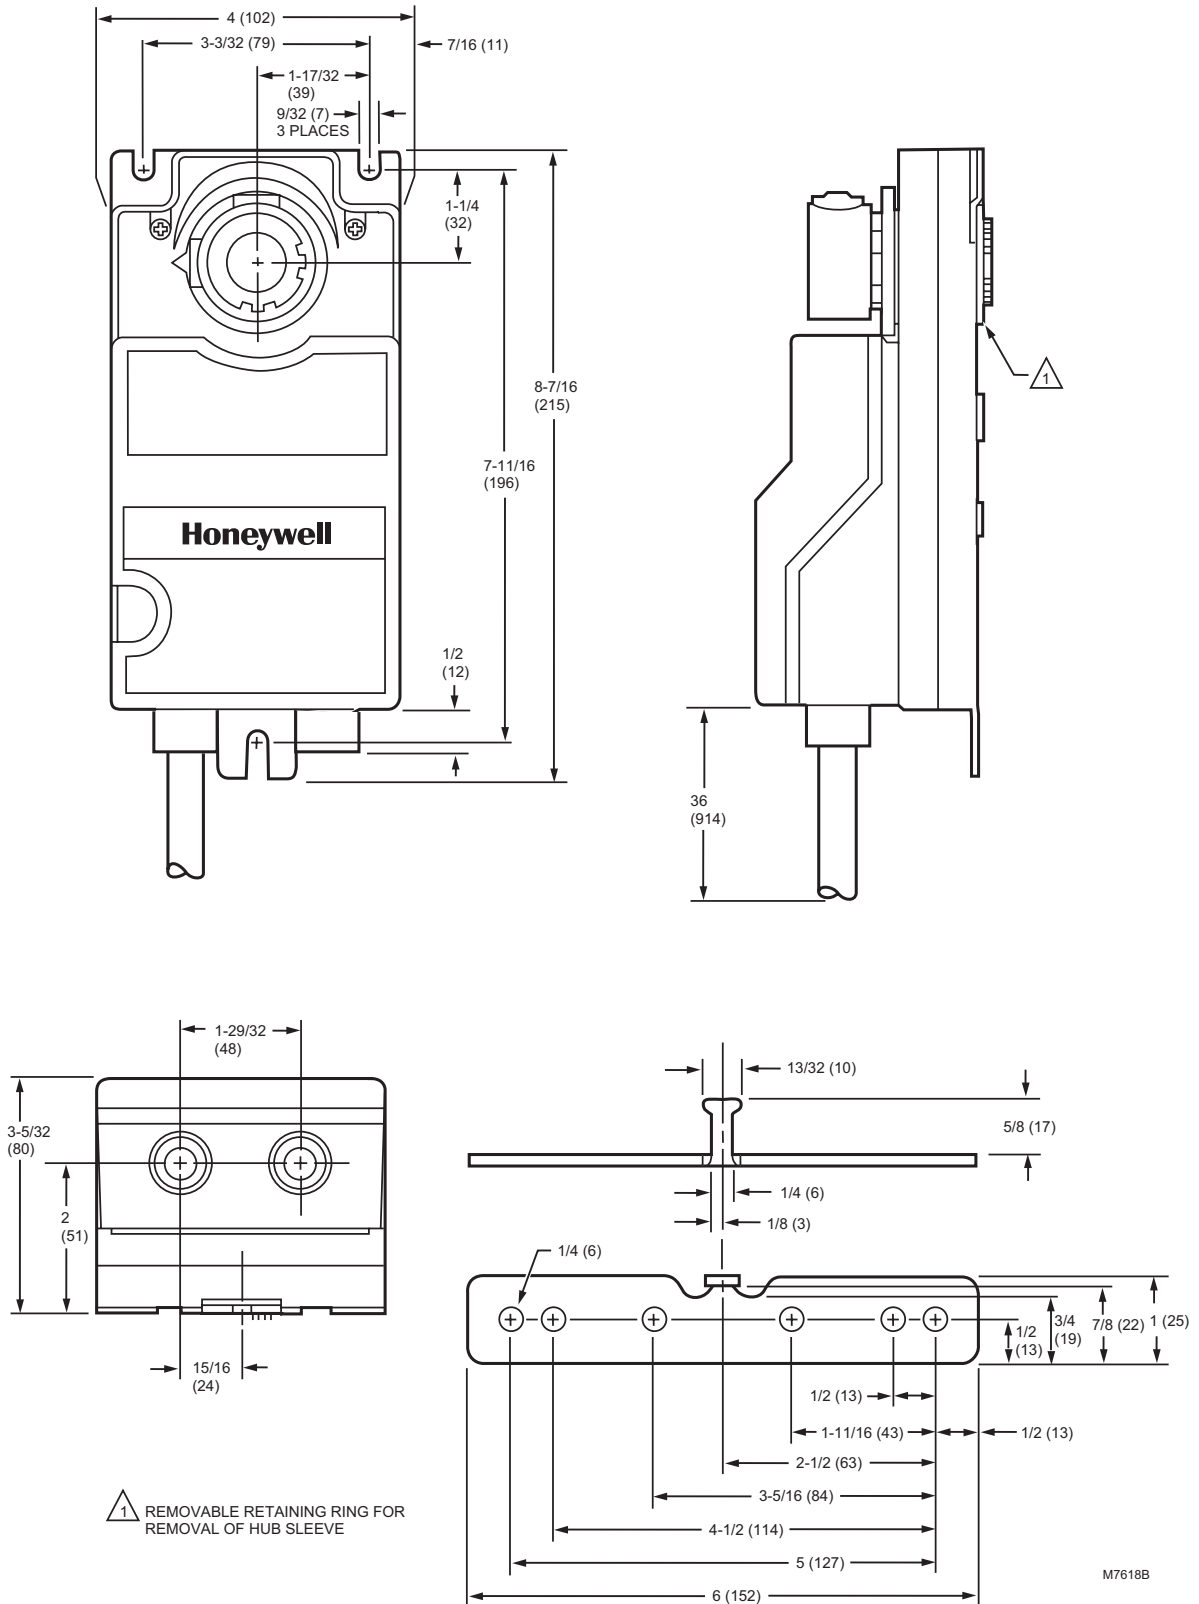
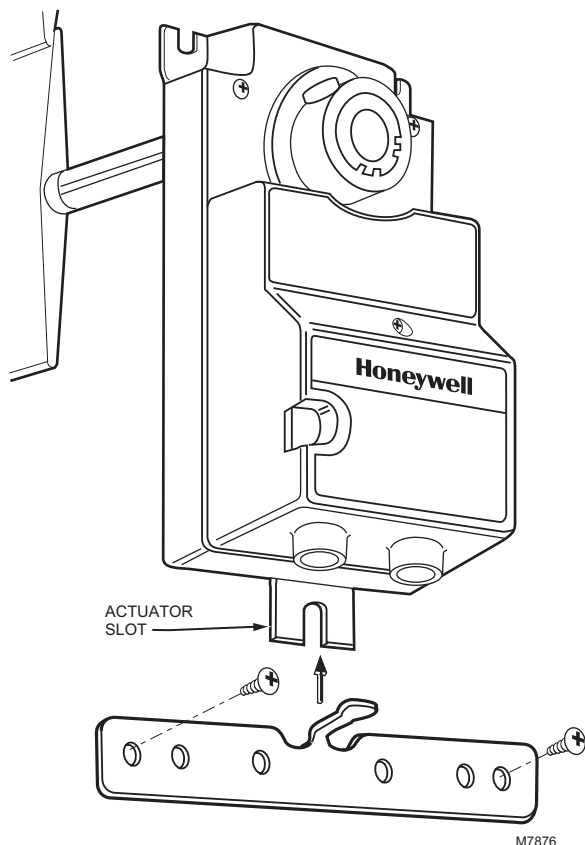

Fig. 1. Approximate dimensions of ML9184 Non-Spring Return Direct Coupled Damper Actuator and mounting bracket in in. (mm).
Fig. 2. Installing mounting bracket on ML9184 Non-Spring Return Direct Coupled Damper Actuator.
Dimensions: See Fig. 1.
A mounting bracket (see Fig. 1) is provided with some models to aid in installing the actuator. The bracket can be bent to any shape to allow the bracket tab to be centered in the actuator slot. Install the mounting bracket so that the mounting bracket tab is centered in the actuator slot. See Fig. 2.
Before installing the ML9184 on the damper shaft, determine the opening direction of the damper shaft (see Fig. 2) to correctly connect the wiring.
3. Install the mounting bracket (see Fig. 2) and adjust it so the mounting bracket tab is centered in the actuator slot. Mark the screw holes for installing the mounting bracket on the damper housing.